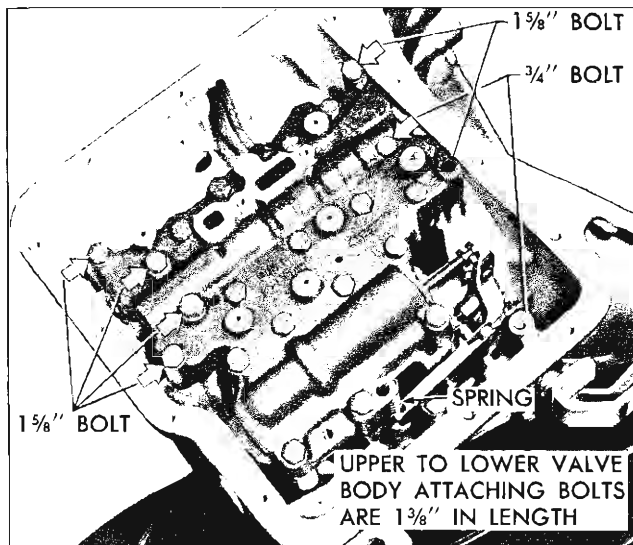

Fig. 16PG—Valve Body Removal
25. Remove the remaining valve body-to-transmission case attaching bolts (indicated by arrows in Figure 16PG) and carefully lift out the valve body and gasket, disengaging the servo apply tube from the transmission case as the valve body is removed.